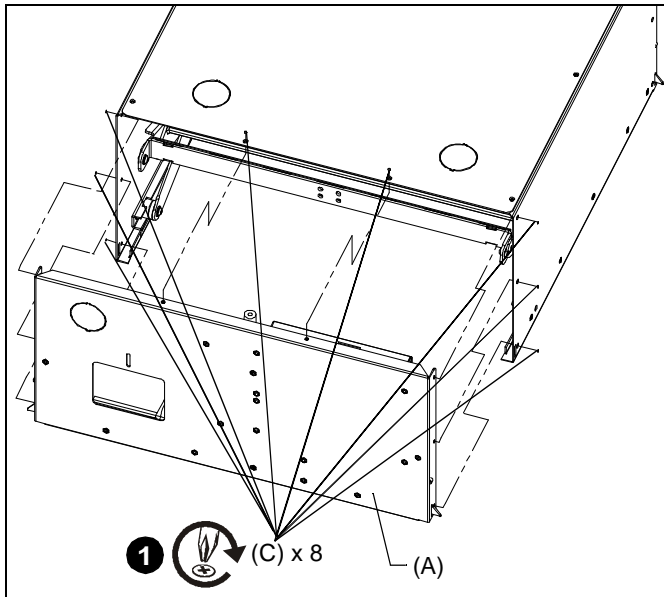

Figure 9
1. Attach rear wall assembly (A) to SL220 assembly using eight 06-32 x 5/16" Phillips undercut screws (C). (See Figure 9)